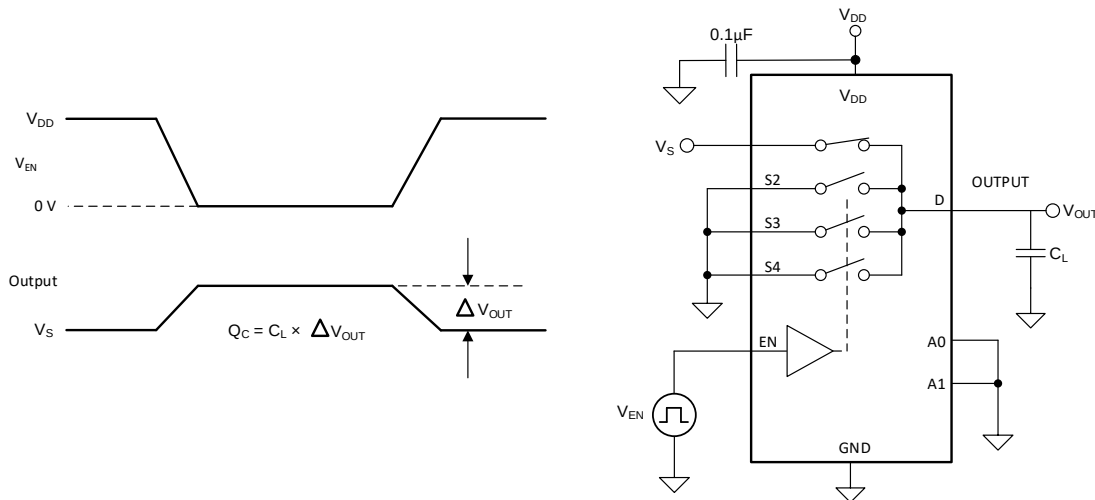

Figure 24. Charge-Injection Measurement Setup
The TMUX1104 has a transmission-gate topology. Any mismatch in capacitance between the NMOS and PMOS transistors results in a charge injected into the drain or source during the falling or rising edge of the gate signal. The amount of charge injected into the source or drain of the device is known as charge injection, and is denoted by the symbol Q_C . Figure 24 shows the setup used to measure charge injection from source (Sx) to drain (D).